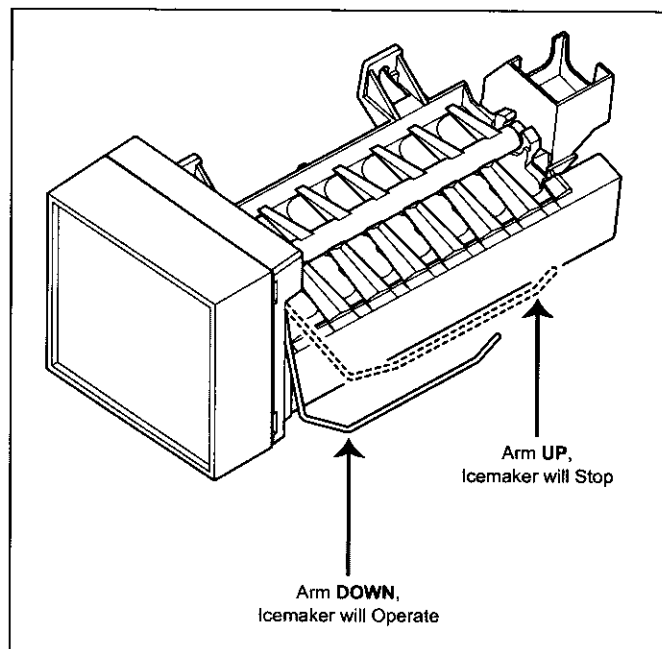

Figure 6-12. Stopping Icemaker
3. Position the ice-level/shut-off arm in the up/OFF position (See Figure 6-12).